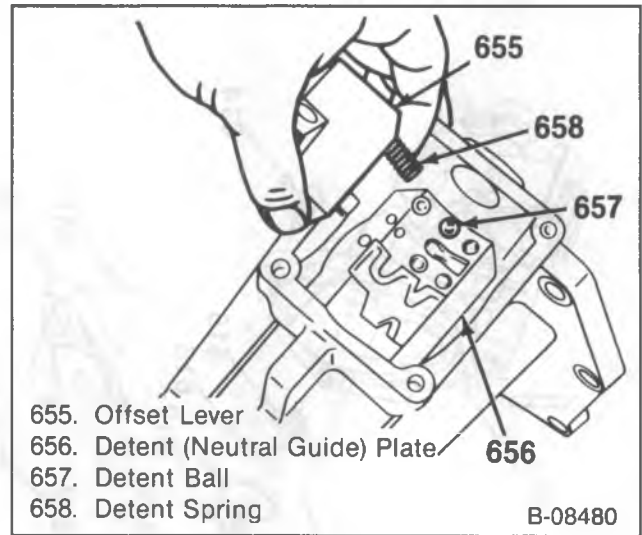
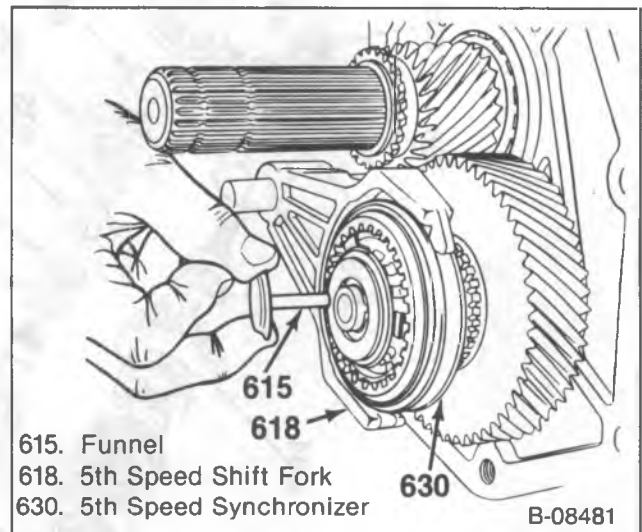

Figure 5—Detent Ball and the Spring
Figure 6—Plastic Funnel
4. Detent ball and the spring from the offset lever, (figure 5).
5. Countergear rear thrust bearing (612).
- Plastic funnel (figure 6).
6. Shift cover (601).